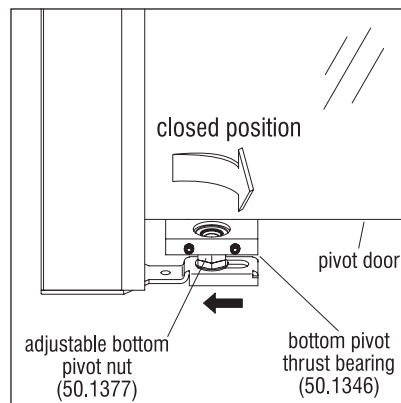

Figure 6 - Closed Position
5. Moving the bottom door thrust bearing and pivot nut 1/4" toward the edge of the door will make the door swing closed under its own weight (Figure 6).